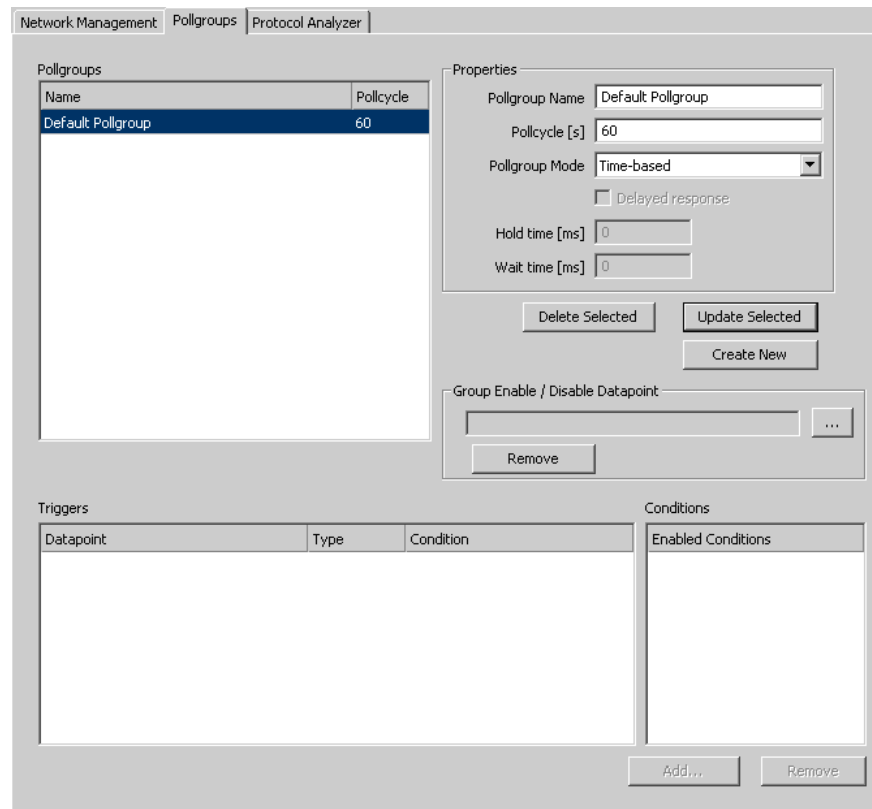

Figure 179: Pollgroup Management dialog.
2. Open the **Pollgroups** tab. This shows the dialog displayed in Figure 179.
2. In the **M-Bus Management** dialog, open the **Pollgroups** tab. This displays the poll groups management tab displayed in Figure 179.